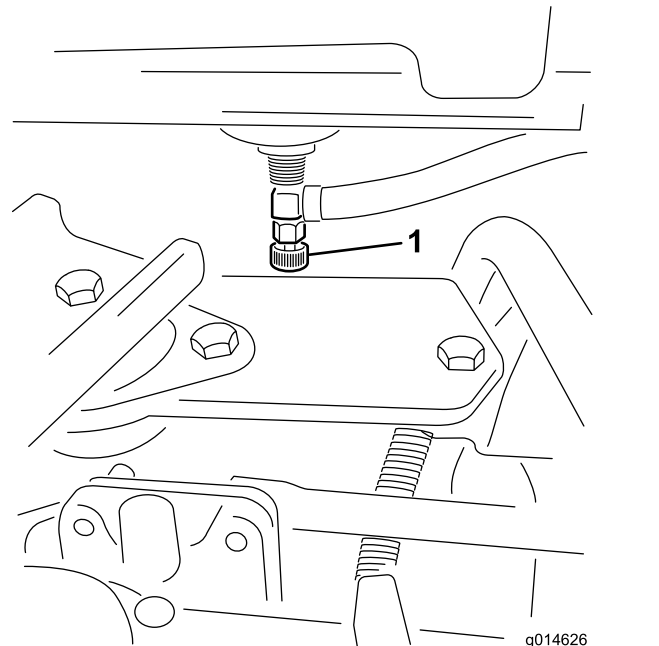

Figure 45
1. Close the fuel-shutoff valve (Figure 45) below the fuel tank.